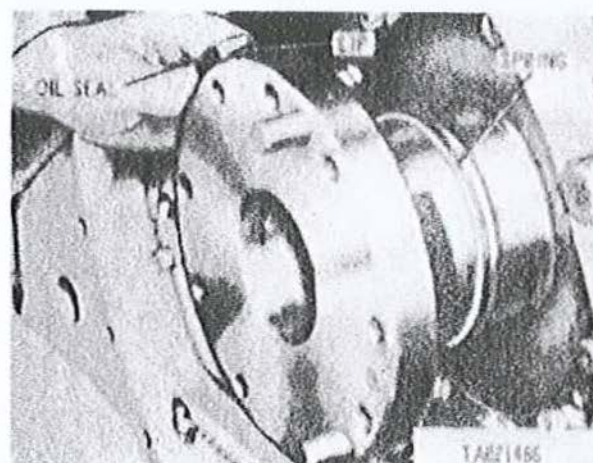

Figure 2-103. Removing or installing crankshaft oil seal.
(7) Remove spring (fig. 2-103) from lip in crankshaft oil seal and remove split oil seal from
(2) Install split oil seal (fig. 2-103), making sure that the lip is toward the crankcase and that the spring seats around the lip of the oil seal. Apply a coating of lubricant (engine oil) around lip and outer surface of seal.